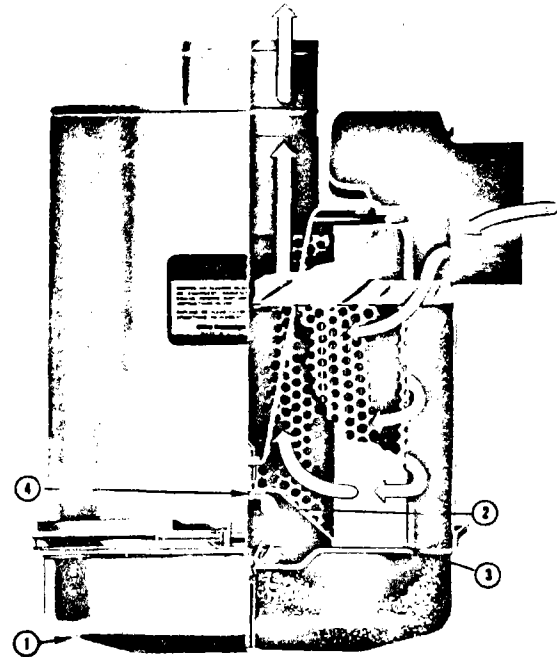
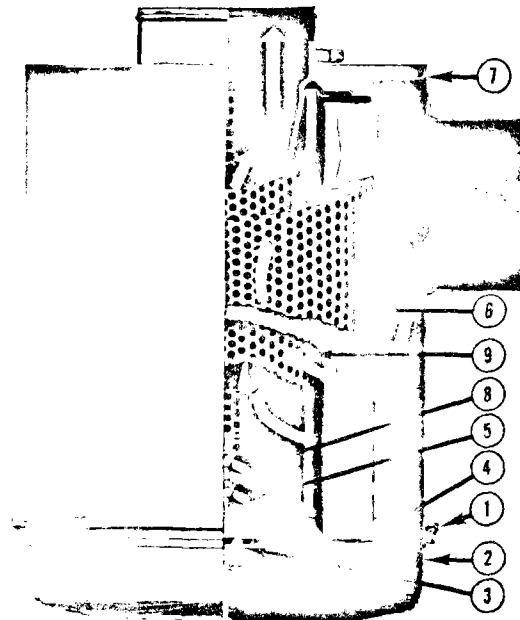

Fig. 2-11, (V10005). Air Cleaner — heavy duty
Fig. 2-12, (N11030). Air cleaner — heavy duty (dual element)
1. Loosen the wing bolt, remove the band securing the dust pan (1, Fig. 2-11), (2, Fig. 2-12).
2. Loosen the wing nut (2, Fig. 2-11 and 3, Fig. 2-12), remove the dust shield (3, Fig. 2-11), (4, Fig. 2-12), from the dust pan (1, Fig. 2-11), (2, Fig. 2-12), clean the dust pan and shield.
3. Remove the wing nut (2, Fig. 2-11), (5, Fig. 2-12) securing the air cleaner primary element (6, Fig. 2-12) in the air cleaner housing, inspect the rubber sealing washer on the wing nut (4, Fig. 2-11), (5, Fig. 2-12).
- a. Check the air restriction indicator. If the air restriction is excessive, disassemble the air cleaner, remove the wing nut (8, Fig. 2-12), and replace the safety element (9).